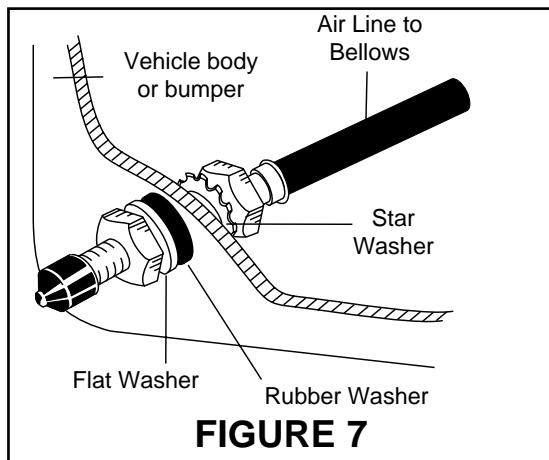
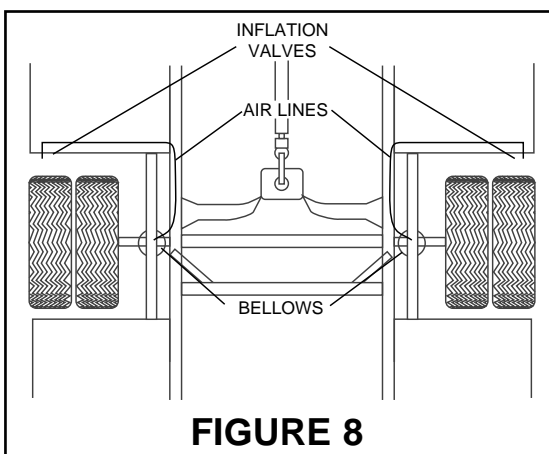

FIGURE 7
FIGURE 8
A. Select locations on the vehicle for the air inflation valves (Figure 8). The location can be on the bumper or on the body of the vehicle, but be sure that it is protected so that the valve will not be damaged and will still be accessible for the air chuck. Use a standard tube cutter, a razor blade, or very sharp knife to cut the airline assembly into two equal parts. A clean square cut will ensure against leaks. Drill a 5/16" hole and install the air inflation valve, as shown in Figure 7. Install inflation pressure decal near inflation valve.